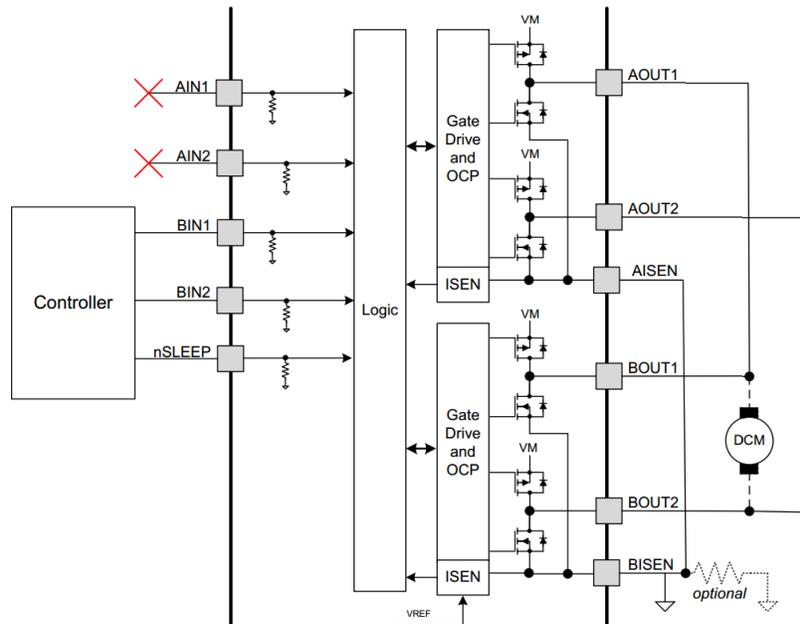

Figure 16. Parallel Mode Operation
- See Figure 16 for the schematic connections. You must parallel the outputs from the terminal block header (J6).